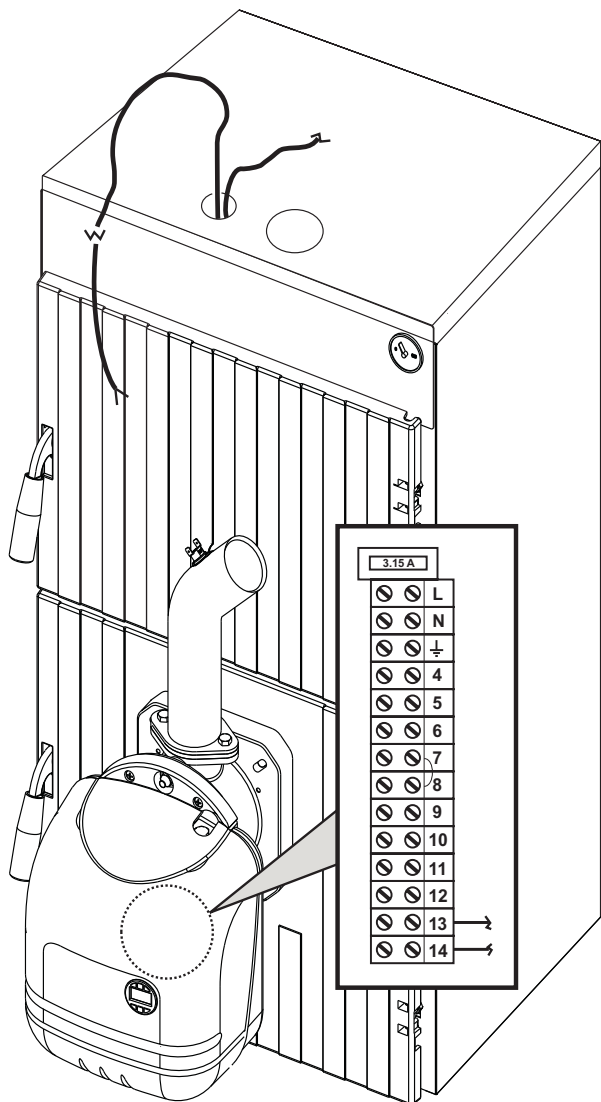

fig. 13
- Position the boiler cover and run the cable through the hole as indicated in fig. 13.